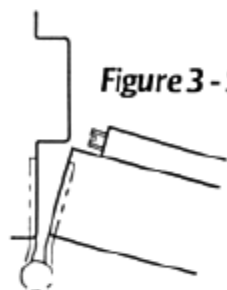

Figure 3 - Surface Mounted
9. For surface mounted installation, the plunger contacts the stop (as shown in Figure 3).